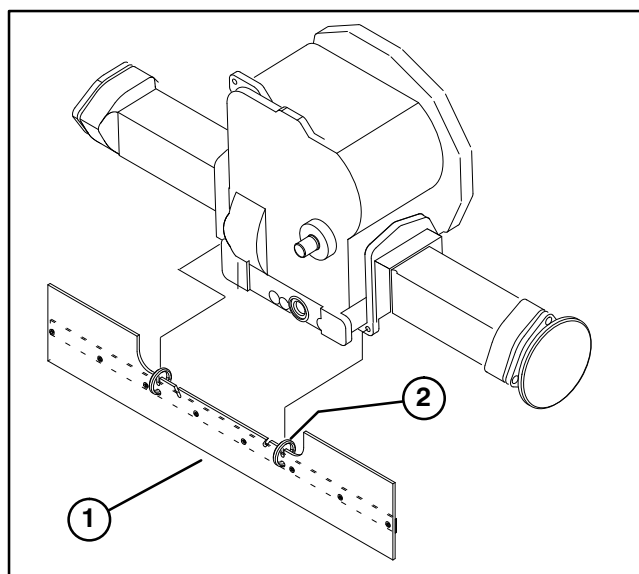

Figure 5
MOUNT REAR GUARD (Fig. 5)
1. Hook guard rings into holes in front axle as shown in figure 5.